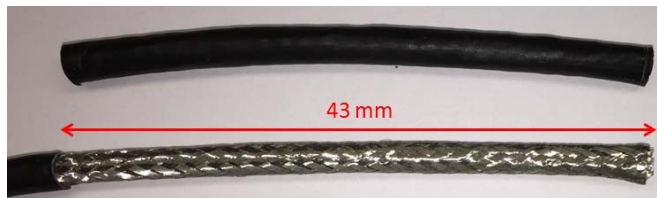

Figure 17
- Strip the outer jacket. (Fig 17)